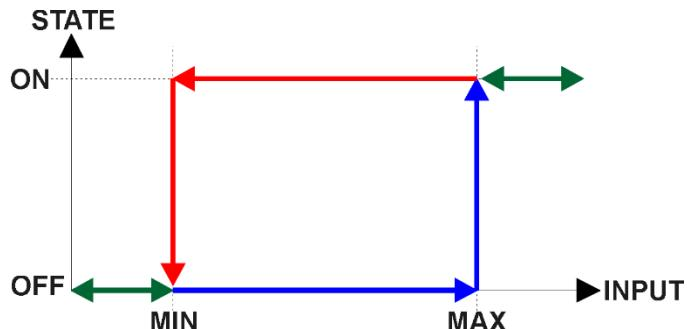

Figure 5 – Analog Input Reads as Digital
There is another type of ‘digital’ input that can be selected when 6112h is set to 20 = Analog On/Off. However, in this case, the input is still configured as an analog input, and therefore the objects from the Analog Input (AI) block are applied instead of those discussed above. The object 6000h is written as per the logic shown in Figure 5. In this case, the MIN parameter is set by object 7120h **AI Scaling 1 FV**, and the MAX is set by 7122h **AI Scaling 2 FV**. For all other operating modes, object 6000h will always be zero.